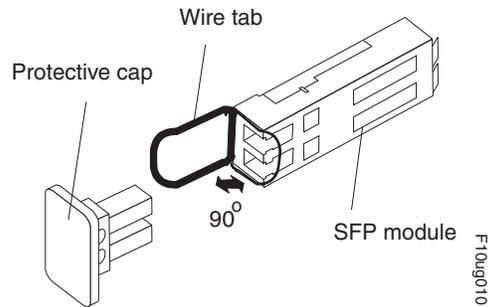

Figure 48. Unlocking the SFP module latch - wire variety
- For SFP modules that contain wire tabs, unlock the SFP module latch by pulling the wire latch outward 90°, as shown in Figure 48 on page 61.